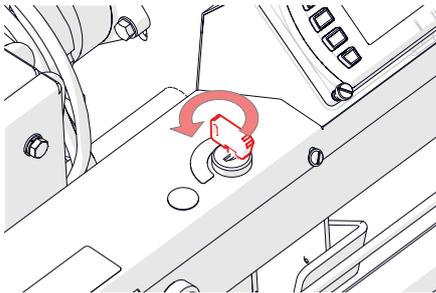

Fig. 10D - Key switch to off
4. To shut-down the machine, turn the key switch to off (Fig. 10D) and remove the key.